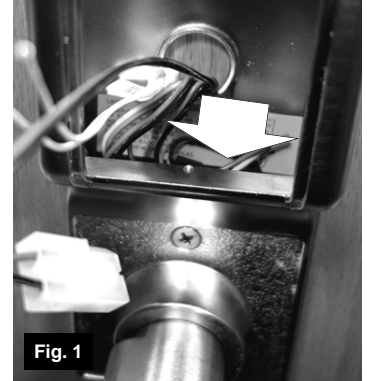
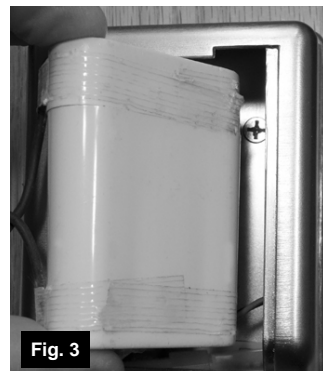

Fig. 1
Fig. 3
3. Inside the rear housing, locate and take hold of the two white "Remote Input" wires and the disconnected battery plug connector. Push all other wires and the motor wire into the bottom "cavity" of the rear housing (Fig. 1).
pack: Before replacing the battery pack, carefully push all of the remaining wires that are inside the housing down into the "cavity" shown in Fig. 1. Replace the battery pack by **placing the right side of the battery pack into the housing first** (see Fig. 3 and Fig. 4).